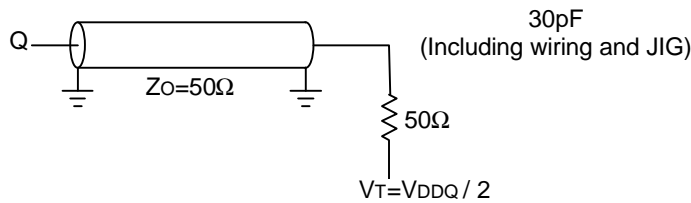

Fig.1 Output load
(1) MEASUREMENT CONDITION
- Output load Fig.1
Note33. Test conditions is specified with the output loading shown in Fig.1 unless otherwise noted.